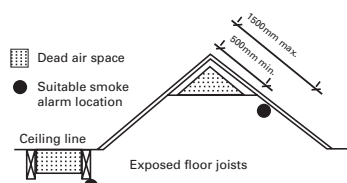

Figure 5
If your rooms have sloped, peaked, or gabled ceilings, smoke alarms must be installed 500 mm – 1500 mm, measured horizontally, from the highest point (apex) of the ceiling as shown in Figure 5.
- In dead air spaces where smoke may not enter. Avoid installing alarms in the peak or upper sections of a sloping or 'A' framed ceiling, and between exposed ceiling beams, where the air does not circulate, see figure 5.